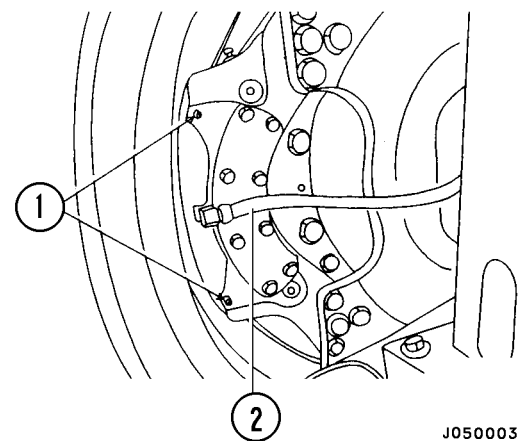

FIGURE 40-10. FRONT BRAKE PRESSURE
2. Remove the top air bleed plug (1, Figure 40-10) and install a 400 kg/cm² (5690 psi) pressure gauge.